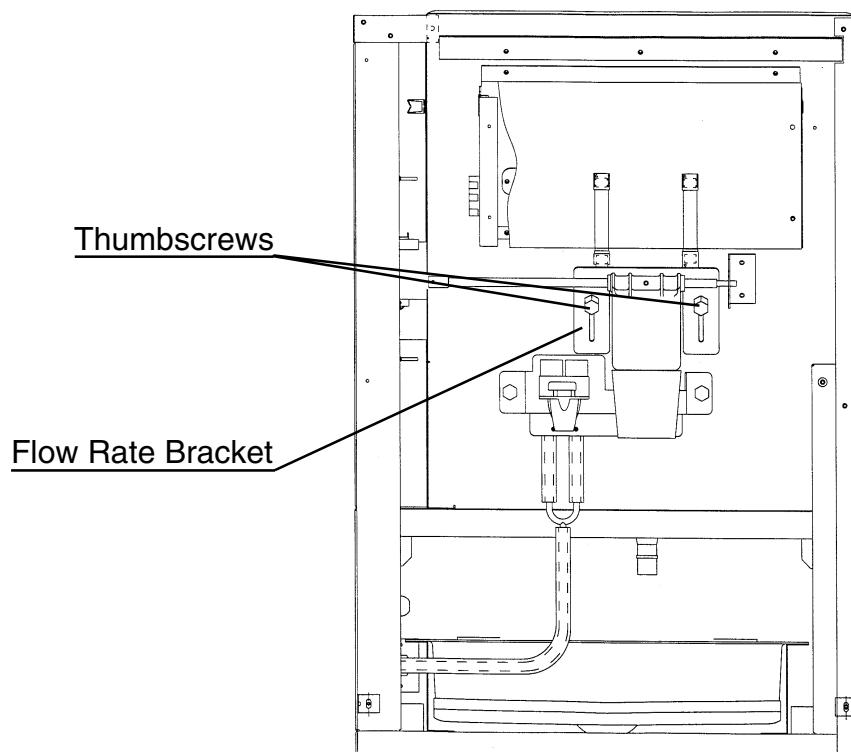

Fig. 5
7. ADJUSTMENT OF FLOW RATE BRACKET SETTING - See Fig. 5
- 2) Loosen the two (2) thumbscrews while holding the Flow Rate Bracket in place. See Fig. 5.
- 5) Upon making final adjustments, be sure to tighten the two (2) thumbscrews and replace the front panel.